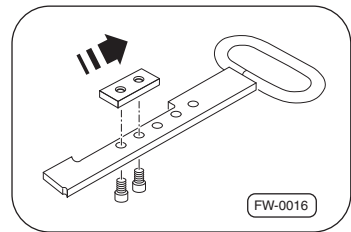

Fig. 22 · Adjustment pin on the handle
1. For decoupled semi-trailers, unscrew the two screws from the adjustment part Fig. 22 of the release handle.